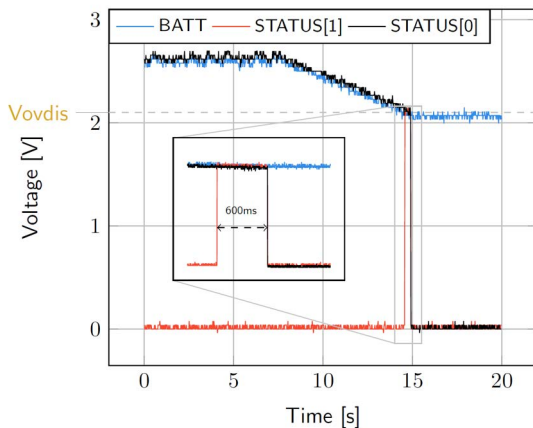

Figure 5: LDOs disabled around 600 ms after **BATT** reaches **V_{OVDIS}**
- **BATT**: Voltage decreases as the system consumes the power accumulated in the storage element. The voltage remains stable after crossing V_{OVDIS} (see Figure 5).
- **STATUS[0]**: De-asserted when the LDOs are no longer available as the storage element is running out of energy. This happens 600 ms after **STATUS[1]** assertion (see Figure 5).
- **STATUS[1]**: Asserted for 600ms when the storage element voltage (**BATT**) falls below **V_{OVDIS}** (see Figure 5).